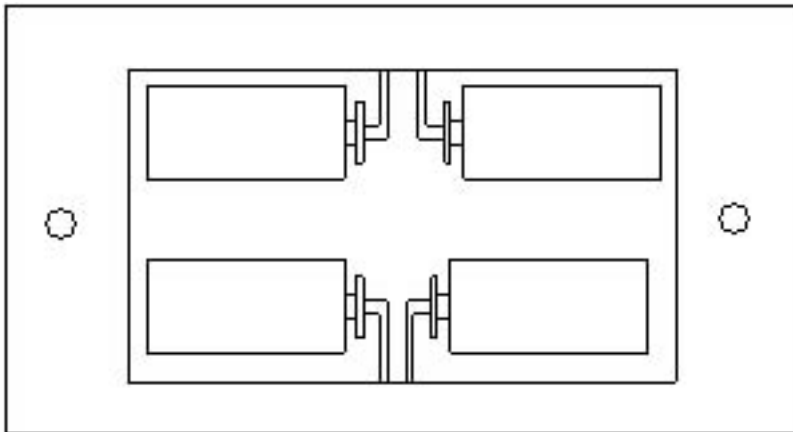

Figure 3-1. Battery Installation (For 190AC and 190F only three 9-volt batteries are installed.)
3. Replace the batteries one at a time, observing proper polarity (refer to Figure 3-1)